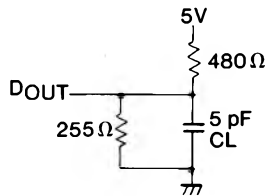

Figure 2 Output Load
2. T_{CX} and T_{OTD} are measured $\pm 200\text{ mV}$ from steady state voltage with specified loading in Figure 2.
5. T_{OTW} and T_{OW} are measured ± 200 mV from steady state voltage with specified loading in Figure 2.